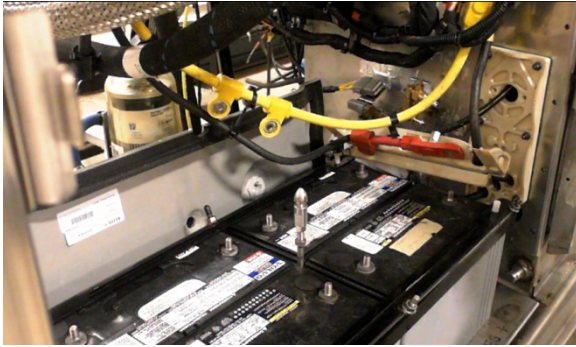

FIGURE 45
4. Put the whole battery cable arrangement aside (FIGURE 45).